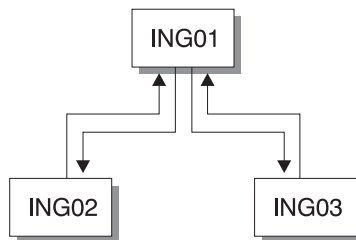

Figure 32. Automation Network Example for SA OS/390 Password Protection
The steps are described in more detail in this section, and reference the example automation network shown in Figure 32, which shows a focal point system connected to two target systems. All systems are named by their NetView domain IDs: ING01, ING02, and ING03.
1. Identify the gateway operator IDs that each system in your automation network needs. For example, referring to Figure 32 on page 160, systems ING02 and ING03 would both need a gateway operator ID (GATING01) to enable the logon from the outbound gateway operator on system ING01. System ING01 would need two inbound gateway operator IDs: one to enable the logon from system ING02, another to enable the logon from system ING03.
If your automation network shares a RACF or other SAF data set, you must define how the data set is to be shared. This applies only to systems that are connected to two or more other systems, which share the same RACF or other SAF data set. Use the customization dialog to specify the systems that share the data set and the system that owns the outbound gateway operator that connects to these systems. For example, if the automation network shown in Figure 32 on page 160 were sharing a RACF or other SAF password data set, a system programmer at system ING01 would use the customization dialog to make the following entries in the System Authorization Facility (SAF) Environment Definition panel as shown in Figure 33.